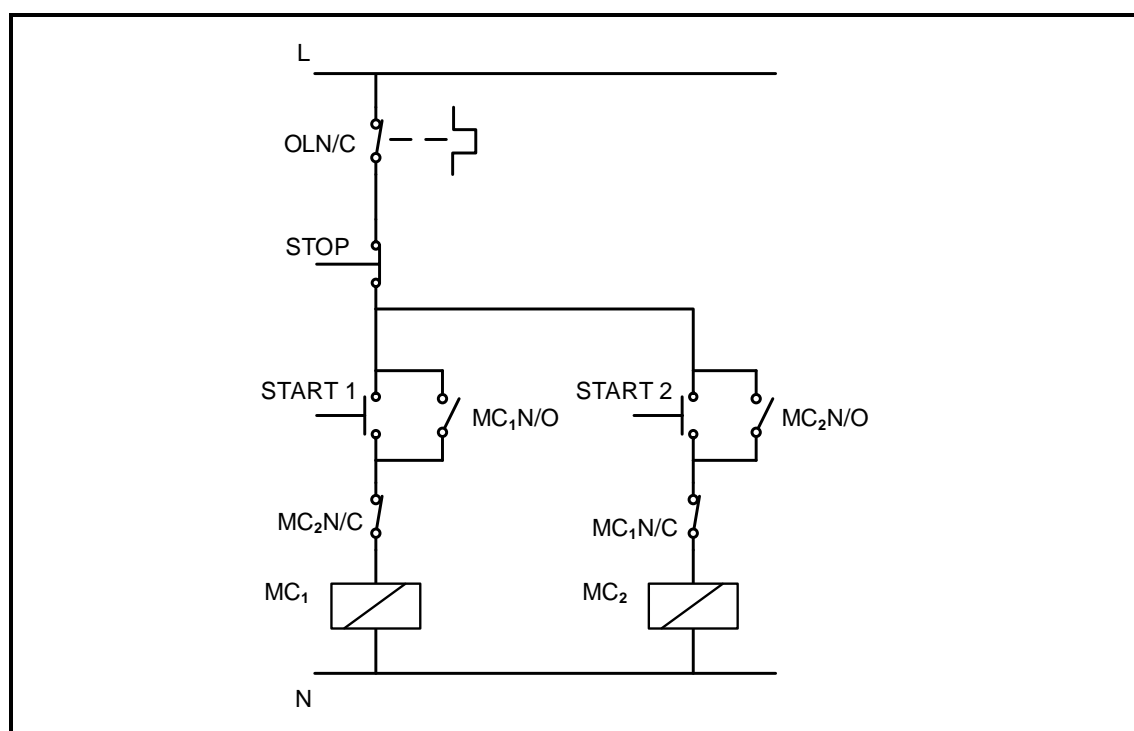

FIGURE 5.5: CONTROL CIRCUIT
- 5.5 FIGURE 5.5 below shows the control circuit of a three-phase motor starter.
5.5.1 Identify the control circuit in FIGURE 5.5. (1)